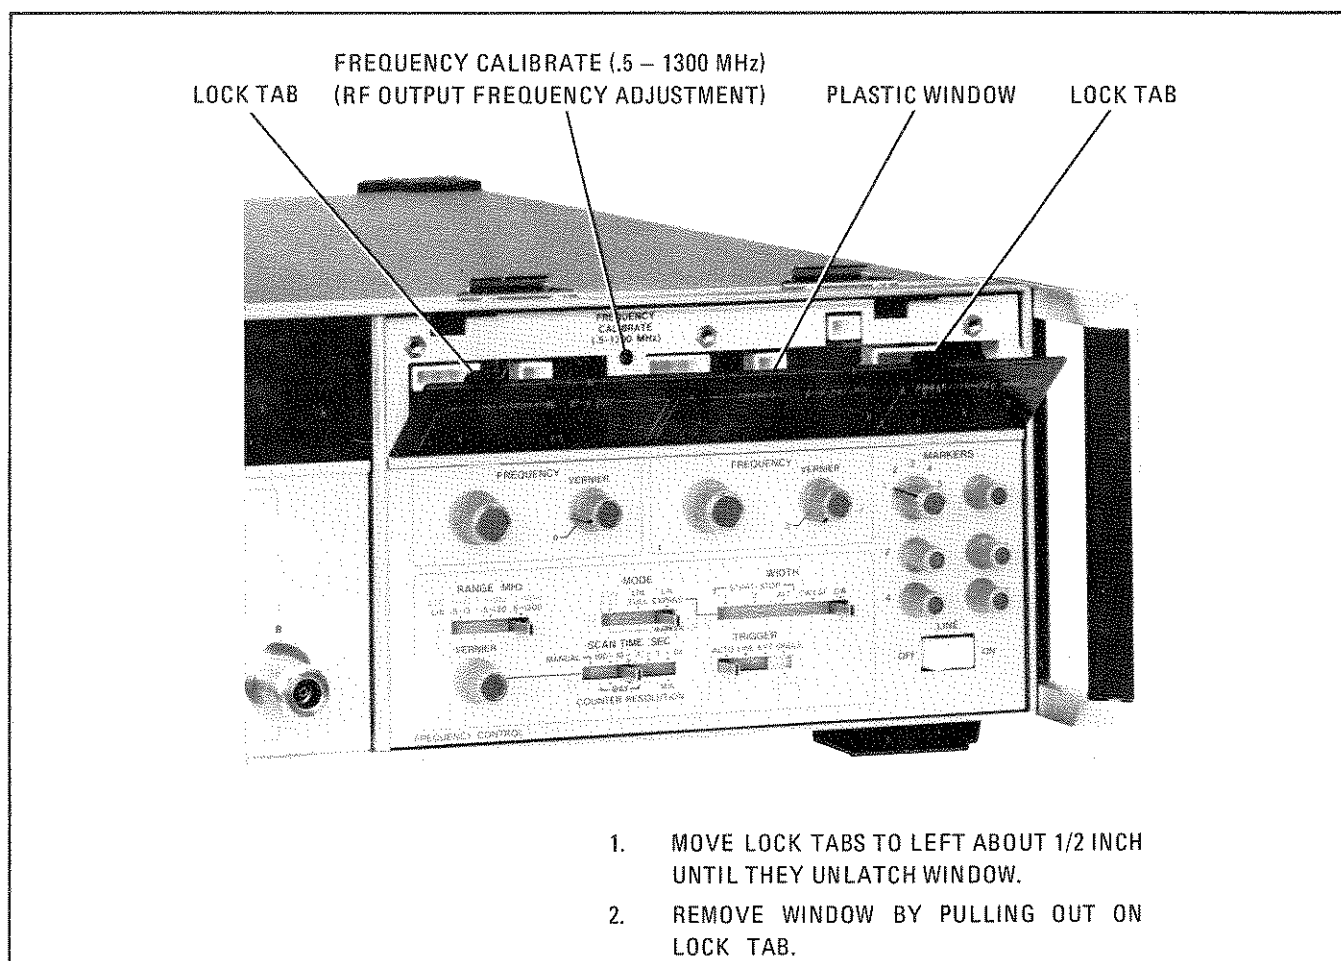

Figure A2-13. Frequency Control Front-Panel Window Removal
- g. Remove the front-panel window of A2 Frequency Control (Figure A2-13).